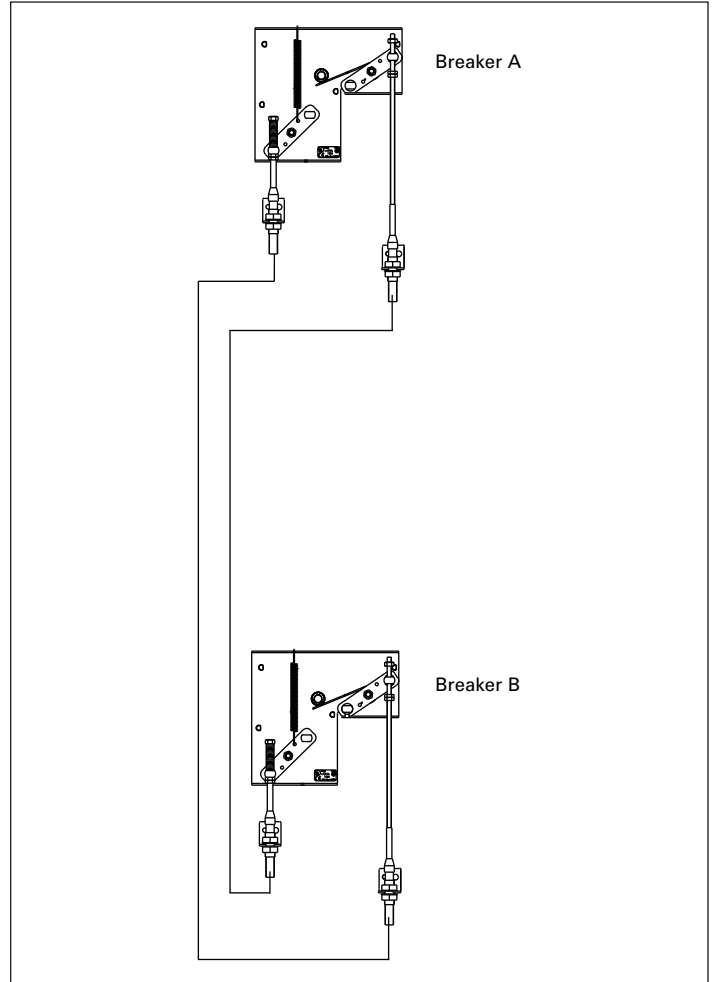

Figure 1. Cable routing for two-way interlock configurations
This information leaflet (IL) provides detailed installation instructions for installing and interconnecting one drawout Type RF frame breaker to another type of low voltage circuit breaker (LVCB) in any position (see A, B in **Table 1**) for a two-way interlock configuration as shown in **Figure 1**. When purchasing kits for a two-way interlock configuration setup, additional interlock kits (the types of interlock kits and the other breakers on which they can be installed that are compatible with this kit are listed in **Table 2**) are required for the other breaker as well as the interconnecting cable kits (one is required).